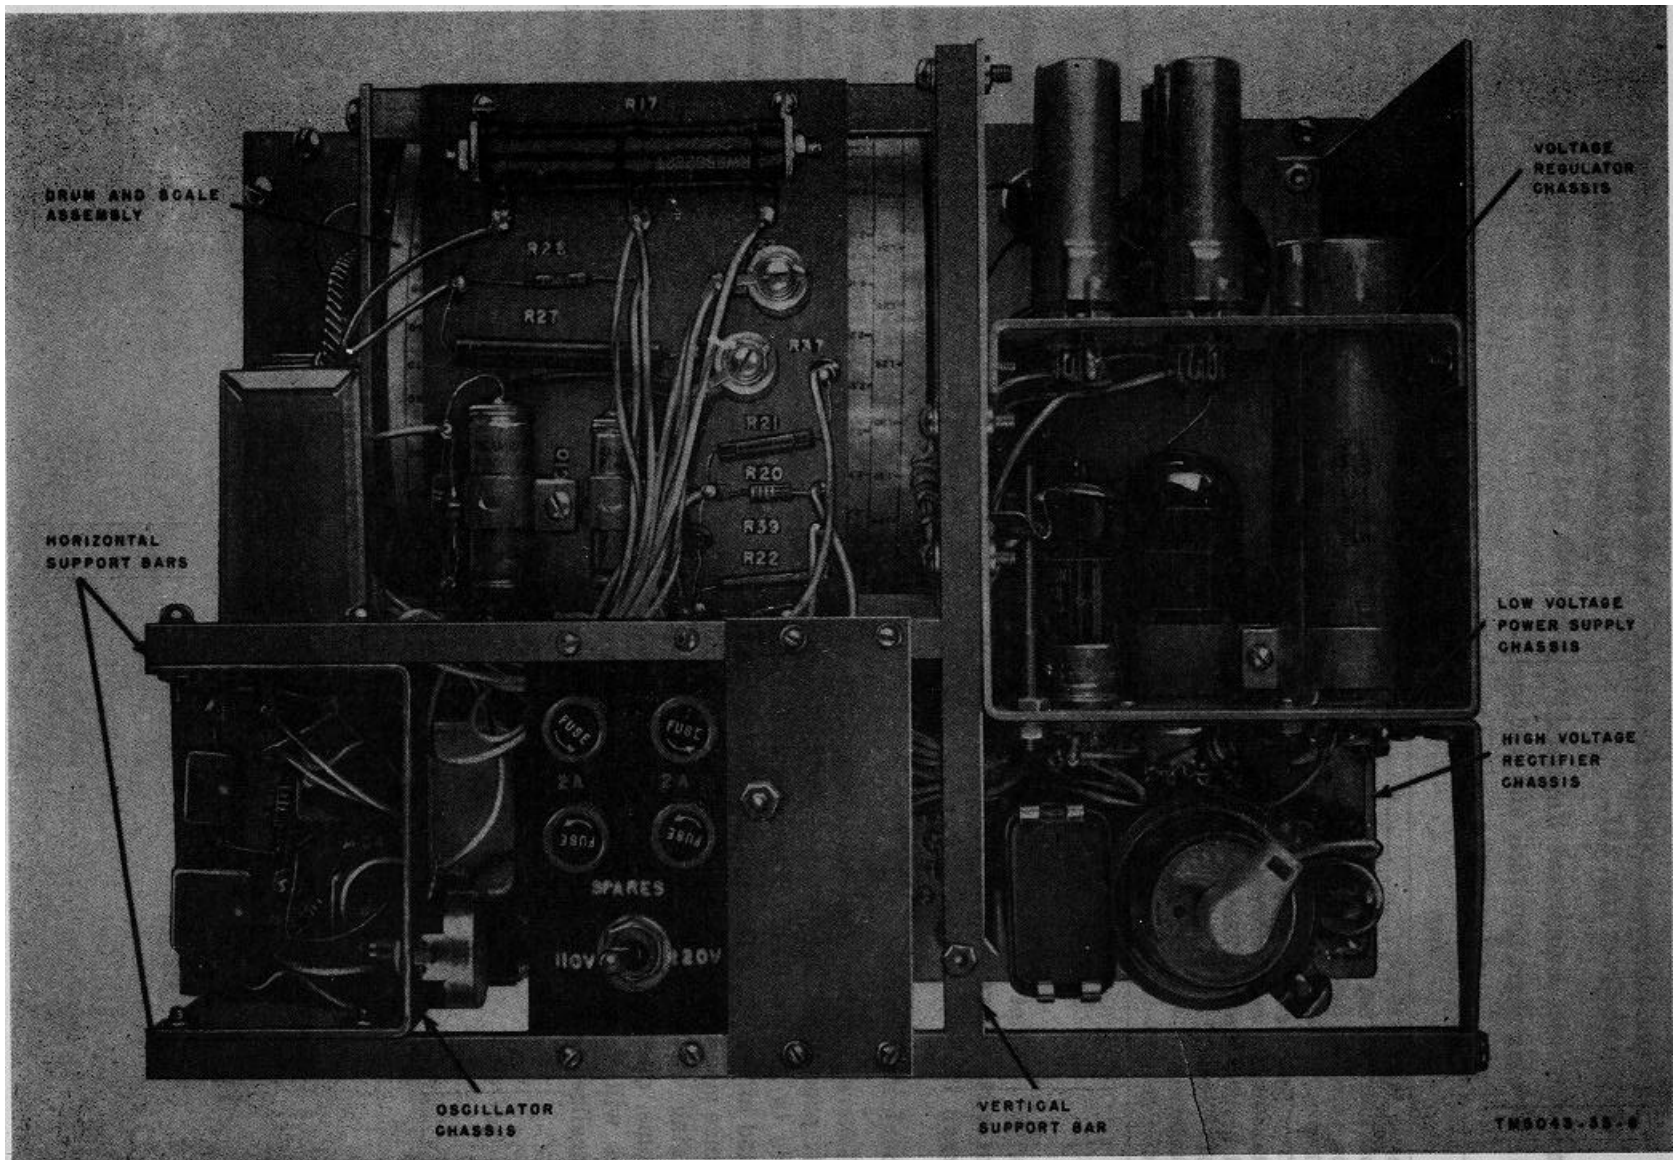

Figure 12. Analyzer ZM-3(\*)/U, location of major assemblies.
*b. Sectionalization* (fig. 12). Analyzer ZM3(\*)/U consists of five major assemblies: the drum and scale assembly, the high voltage rectifier chassis, the low voltage power supply chassis, the voltage regulator chassis, and the oscillator chassis. The first step in tracing trouble is to locate the assembly or assemblies at fault by the following methods: